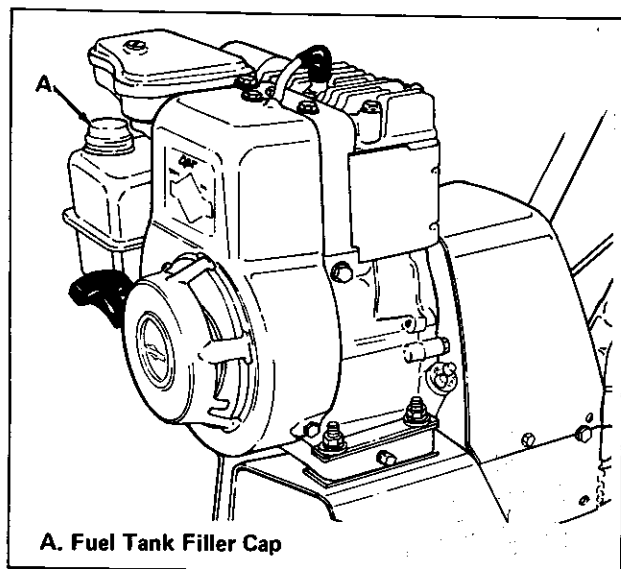

Figure 2. Fuel Tank and Filler Cap
4. Remove fuel tank filler cap (item A, figure 2) and fill completely with clean, fresh leaded or non-leaded "Regular" grade automotive gasoline. Replace fill cap securely.